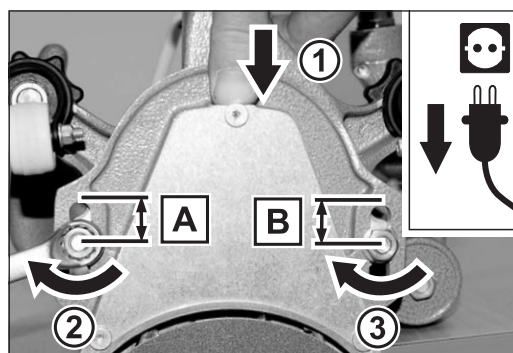

Fig. 36 Tighten the two nuts again while using your thumb to press the attachment forward in order to maintain the belt under tension. **A** and **B** should be equal.
- 4 Grab the ELAN at the suction muff and press the attachment forward with your thumb at the same time (fig. 36, 1). Make sure that the distances between the threaded studs in the long holes are equal on both sides (fig. 36, distance **A** = distance **B**).
- 5 With the attachment pushed forward, use the closed mouth wrench to tighten the two hexagonal nuts (wrench size 13 mm; fig. 36, 2 + 3).